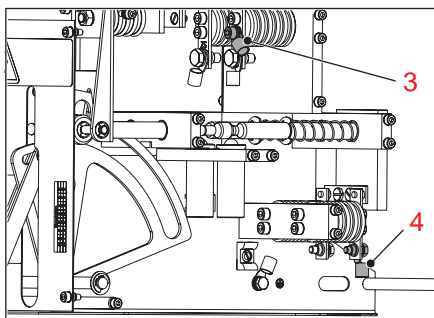

Figure 19
4. Use the continuity tester and check the continuity between main contact WA (3) and the left contact K1/14 (4) at the back of the device, see **Figure 19**.